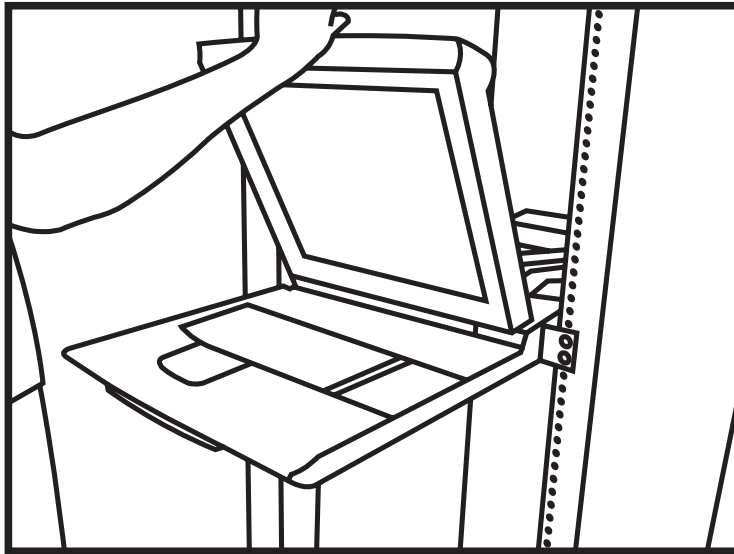

Figure 4-11. Unfold monitor.
1. Pull the keyboard out to the end and unfold the LCD monitor. See Figure 4-11.